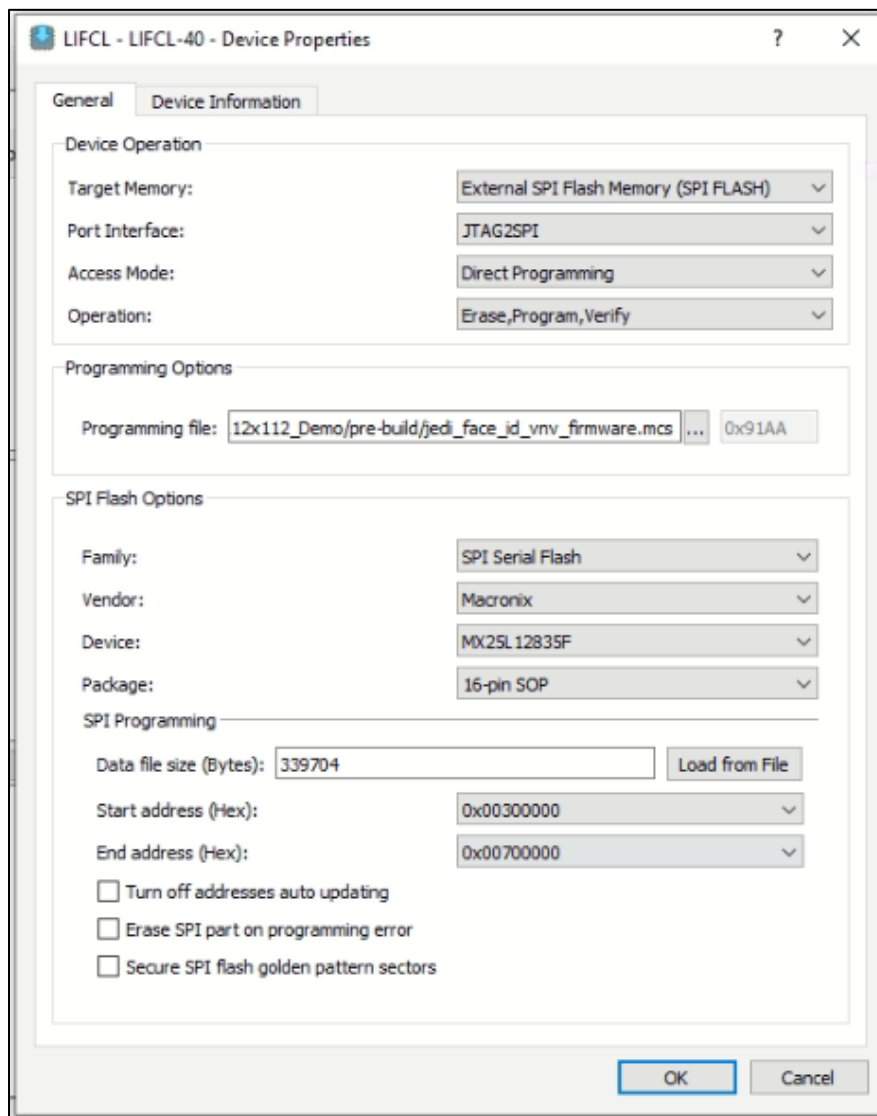

Figure 4.8. Lattice Radiant Programmer – Selecting Device Properties Options for CrossLink-NX Flashing
3. In the **Device Properties** dialog box, apply the settings as shown in Figure 4.8.